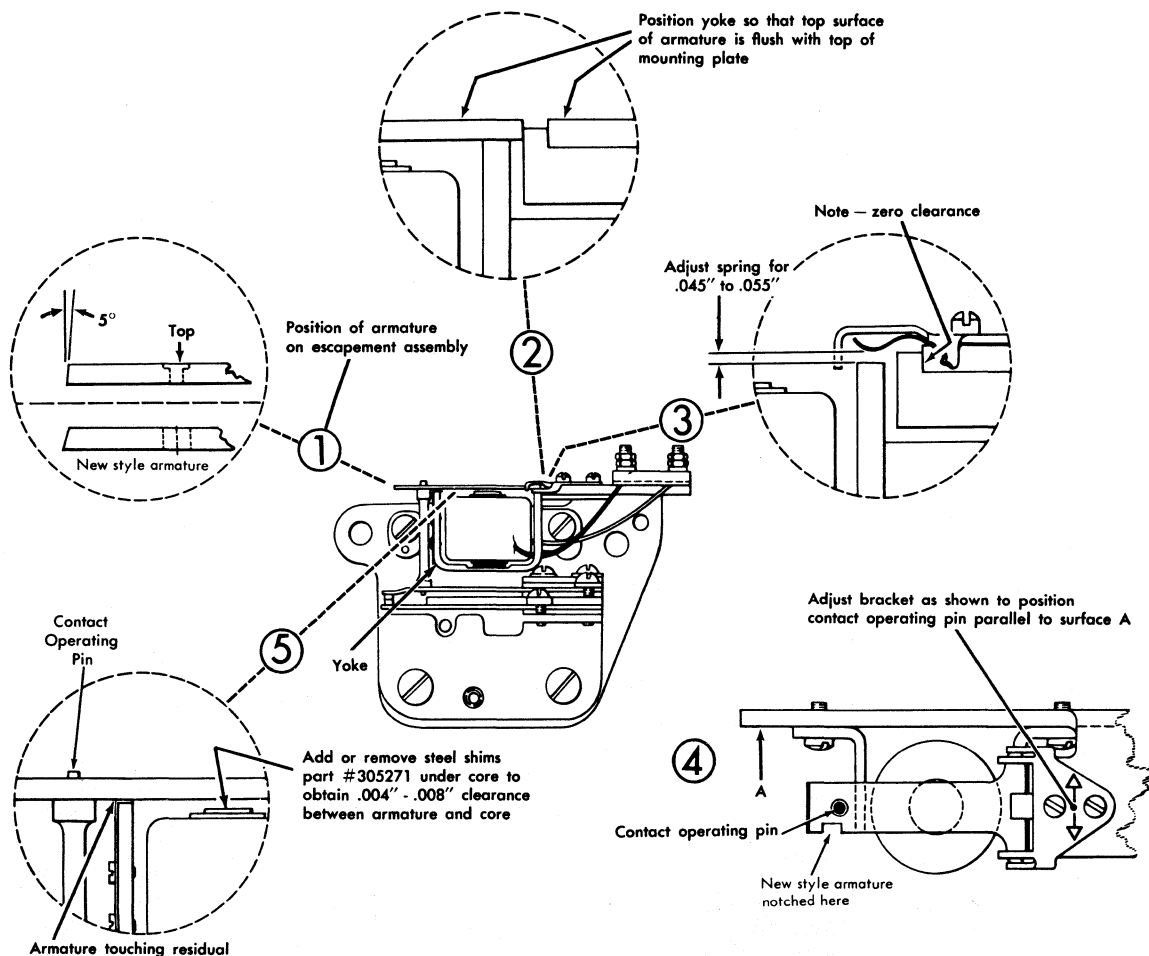

Figure 15. Escapement Adjustment
2. Make adjustments 1 through 7 in Figures 15 and 16.
escapement armature against the yoke at the pivot point as shown at 2, Figure 15. Avoid putting sharp bends in spring straps while forming them. Note that the escapement armature has its top side counterbored .156 inch by .010 inch deep at the hole in which the contact operating pin fits. The counterbore is a mark for the top side of the armature. Machines produced after July, 1954, do not have the counterbored escapement armature. Instead, the out-board edge of the armature is notched at a point near the hole for the operating pin. The end is ground at a 5° angle. The armature must be right side up for proper operation.